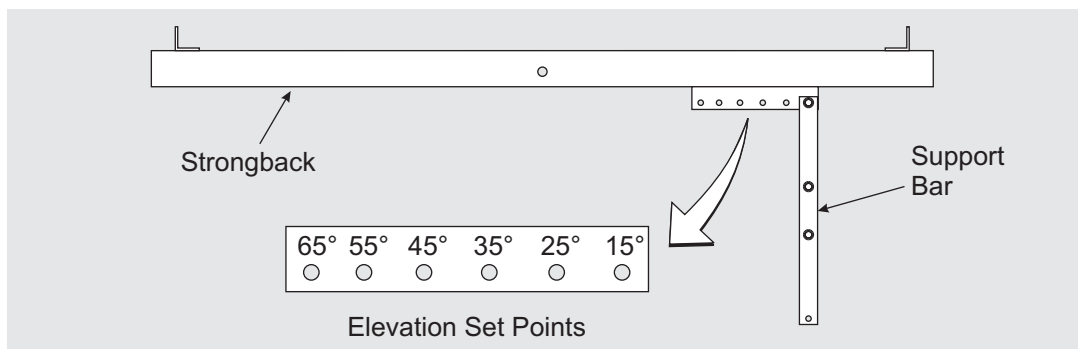

Figure 7-2: Setting the Tilt Angle
- B. Tilt the rack to the desired elevation angle (15°, 25°, 35°, 45°, 55°, or 65°) and re-attach the Support Bar to the Strongback placing the 3/8” hardware in the appropriate hole matching the desired elevation. **Torque at 32-34 ft.-lbs.** (see figure 7-2)